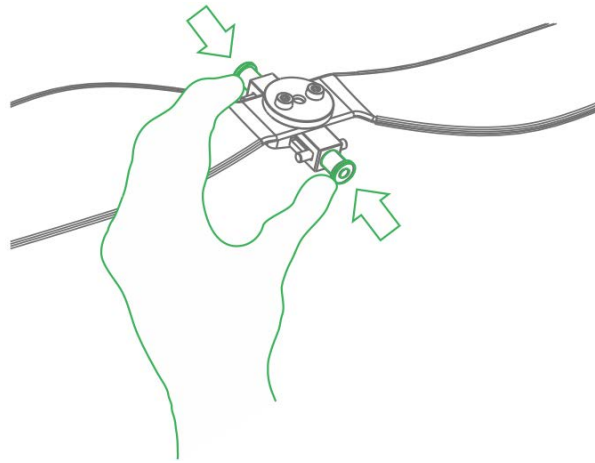

Figure 5-7
Step 1 Press the spring fastener on both sides of the propeller center, and remove the propeller, as shown in Figure 5-7.